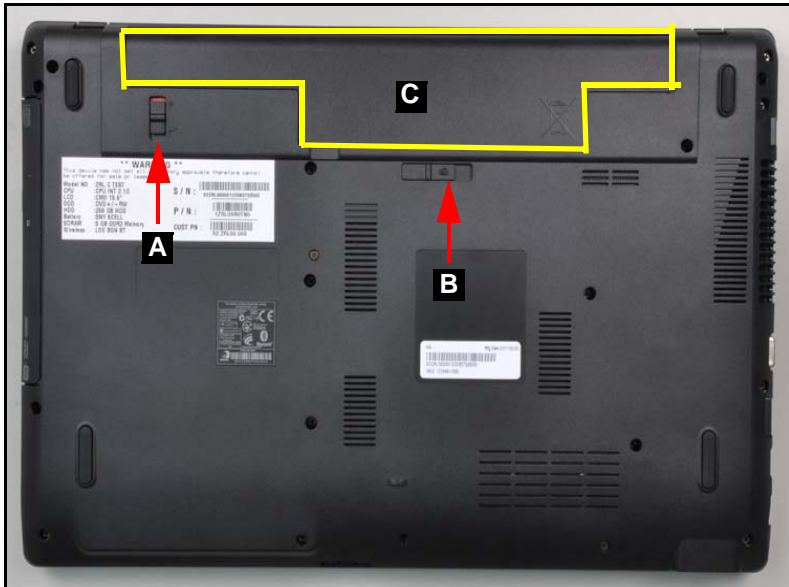

Figure 3-3. Battery
2. Push battery lock/unlock latch (A) to unlock position (Figure 3-3).
3. Push and hold battery release latch (B) to release position (Figure 3-3).
4. Lift battery pack (C) from battery bay (Figure 3-3).
Follow local regulations for battery (C) disposal (Figure 3-3).
1. Hold latch (B) in release position and install battery (C) (Figure 3-3).
2. Lock battery lock/unlock latch (A) (Figure 3-3).